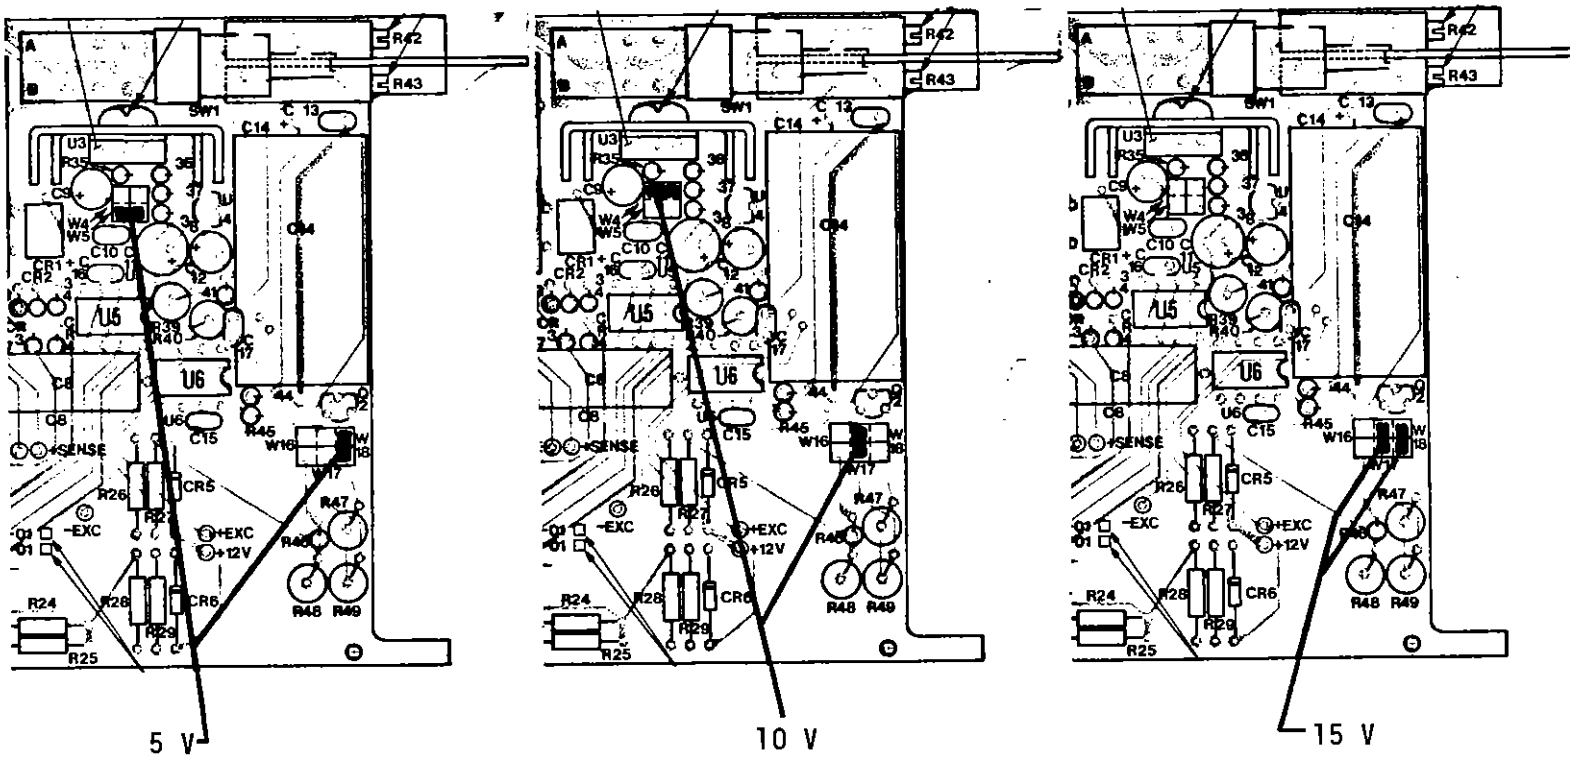

Figure 5
2.4.2 Referring to Figure 5, configure the LA1/LA2 option for the required excitation voltage (reference sections 1.2.3 and 1.2.4).